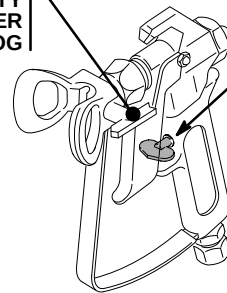

Fig 6
2. If the spray tip does clog, release the gun trigger, engage the gun safety latch, and rotate the RAC IV handle 180°. See Fig 6.